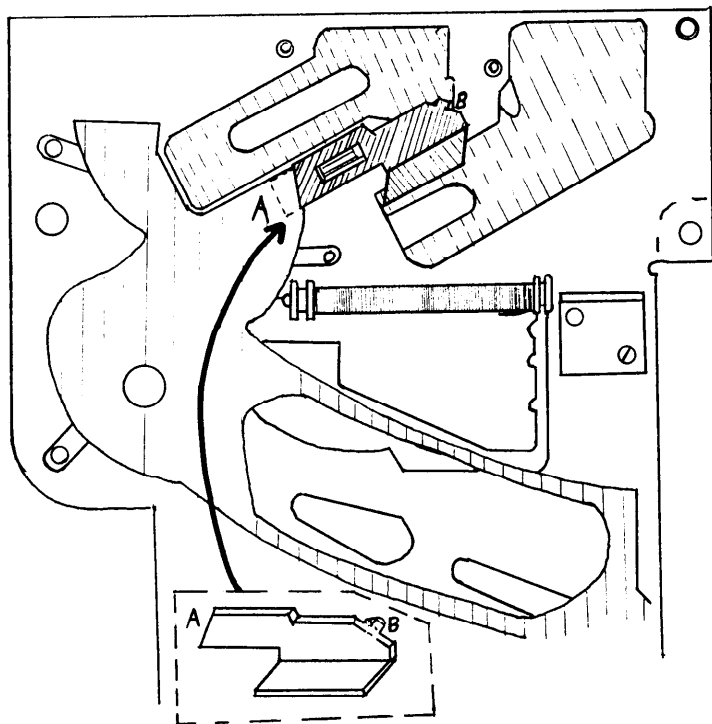
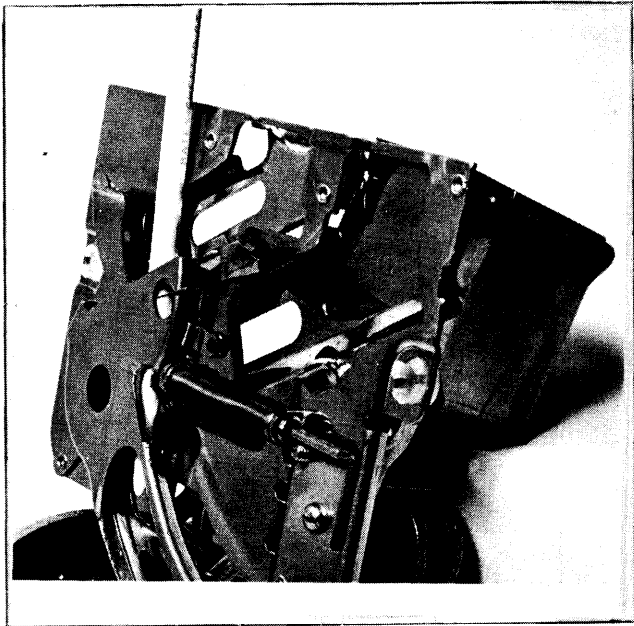

Fig. 1
Fig. 4
2.02 Figure 1 is an illustration of the B-699456 Penny Shield in place.
(b) Insert point A of shield, Figure 1, under the quarter channel. See Figure 4.
(c) Rotate shield into place with tab, point B, Figure 1, projecting through opening in chute. Remove the orange stick from under the quarter slot. Press tab, point B, firmly down over lip of chute with a screwdriver.
Do not use excessive force. Inspect the chute carefully, paying particular attention to the portion of the chute over which the tab at point B, Figure 1, is clamped. If there is an air gap between the chute and the rear housing at point B, paper may be inserted behind the shield and defeat the purpose of the installation. If this condition exists and cannot be corrected, the coin chute should be replaced.